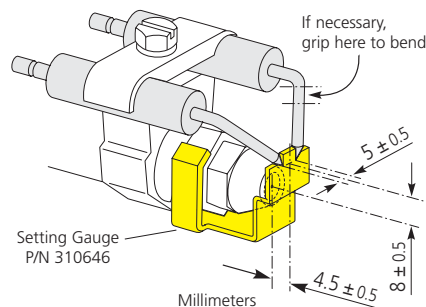

Figure 23: Setting of Ignition Electrodes
NOTE: The insulation body of the ignition electrodes must not show any damage. Damaged insulation of the electrodes requires their replacement. Setting ignition electrodes with a spacing beyond the tolerances shown in Fig. 23 may or will cause ignition failures.
- Electrode spacing with setting gauge according to Fig. 23.